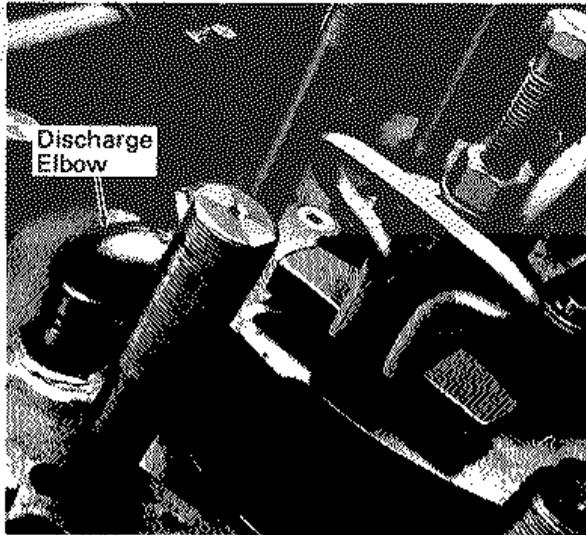

Fig. 5-21 - Water Discharge Elbow Alignment
60. Line up the water discharge elbow with the mating hole in the crankcase, Fig. 5-21. Be careful that the seals are not damaged or twisted in the grooves while the head is lowered into position. Before the head contacts the liner, recheck the position of the seat ring notch and finish lowering the head. Remove the head fixture and lifting device.